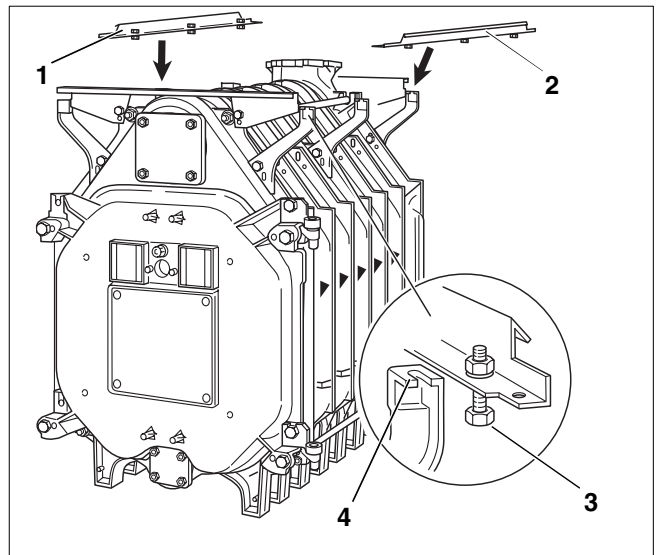

Fig. 37 Assembly – Fitting longitudinal rails
- Place the longitudinal rails (Fig. 37, **ref. 1 and 2**) on the pairs of brackets on the front and rear boiler sections.
- The longitudinal rails already have bolts fitted in them (Fig. 37, **ref. 3**). Fit these bolts into the slots in the brackets (Fig. 37, **ref. 4**) and use them to bolt the rails to the brackets.